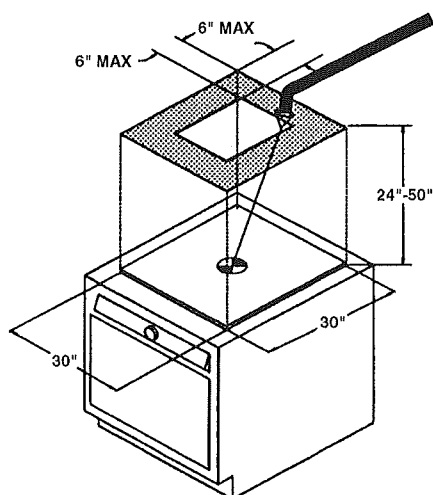

Figure 3-7. Model NL-R Nozzle Placement, Griddle.
The nozzle must be located over the griddle cooking surface, no more than six (6) inches from the edge of the protected zone. The nozzle must be aimed at the center of the protected zone. The nozzle must be mounted 24" to 50" above the cooking surface. See **Figure 3-7**.